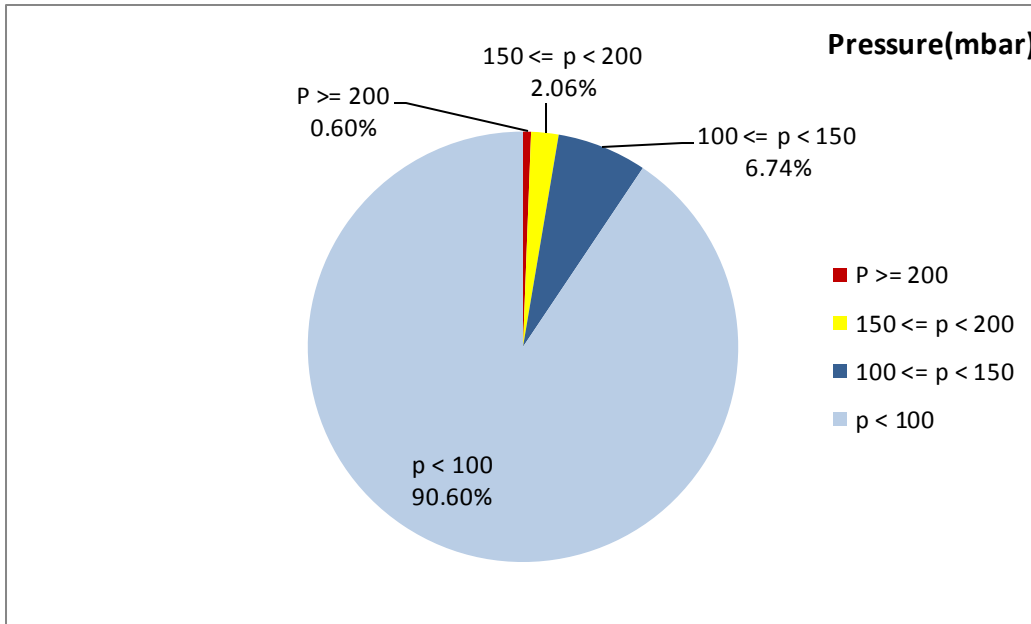

Figure 1- Pressure distribution over the working hours
- As depicted in figure 1, 0.60% of total working time pressure is above 200 mbar and 2.66% above 150mbar.